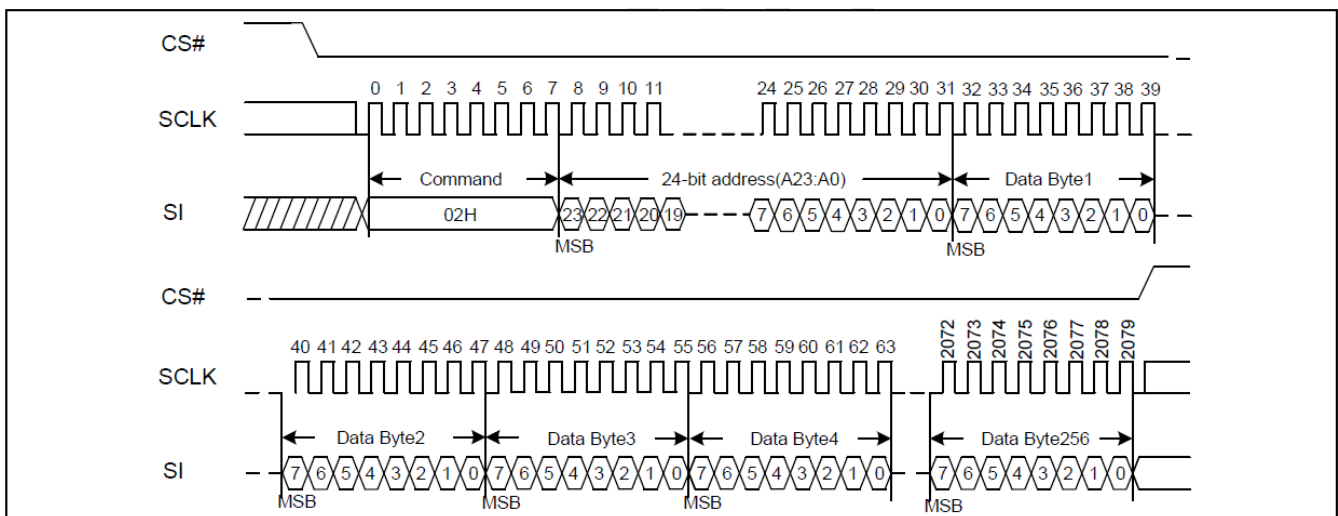

Figure7. Page Program Sequence Diagram
The Page Program (PP) command is entered by driving CS# Low, followed by the command code, three address bytes and at least one data byte on SI. If the 8 least significant address bits (A7-A0) are not all zero, all transmitted data that goes beyond the end of the current page are programmed from the start address of the same page (from the address whose 8 least significant bits (A7-A0) are all zero). CS# must be driven low for the entire duration of the sequence. The Page Program command sequence: CS# goes low sending Page Program command 3-byte address on SI at least 1 byte data on SI CS# goes high. The command sequence is shown in Figure7. If more than 256 bytes are sent to the device, previously latched data are discarded and the last 256 data bytes are guaranteed to be programmed correctly within the same page. If less than 256 data bytes are sent to device, they are correctly programmed at the requested addresses without having any effects on the other bytes of the same page. CS# must be driven high after the eighth bit of the last data byte has been latched in; otherwise the Page Program (PP) command is not executed.